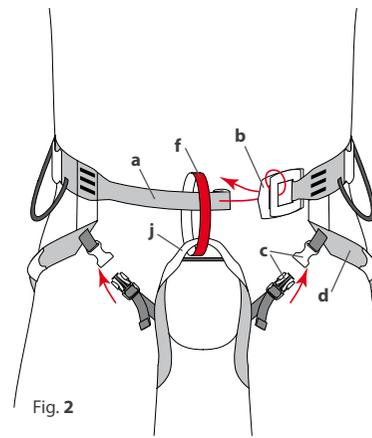

Fig. 2
3. First pass the waist belt (a) through the belay loop (f), then through both buckles (b) (see figure 2). Pull until snug, then feed the waist belt around the smaller of the two buckles and back through the larger one (figure
5. Secure the leg release buckle (c) on each of your legs and adjust them for comfort (Figure 2). Leg loops should fit snugly but shouldn't constrain your movements. Double check that the webbing is not twisted.